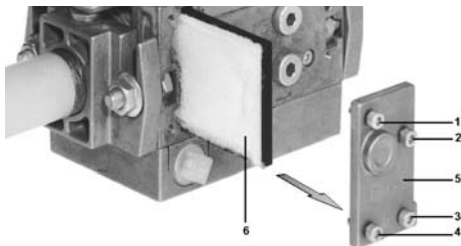

Fig. 37
- 2 Remove screws 1 ÷ 4 using the Allen key n. 3 and remove filter cover 5 in Fig. 37.